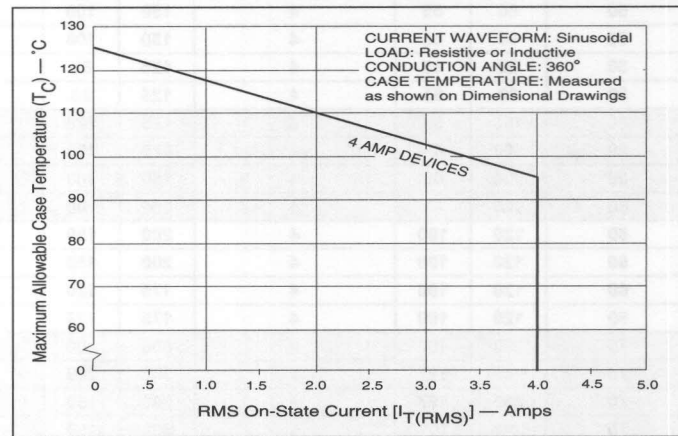

Figure 3.7 Maximum Allowable Case Temperature vs On-State Current (4 Amp)
- See Figures 3.7 and 3.8 for maximum allowable case temperature at maximum rated current.